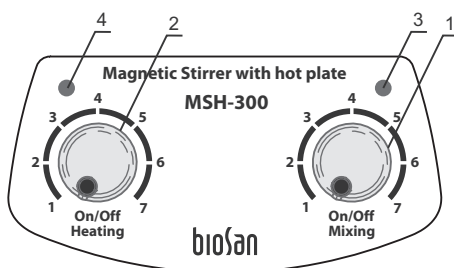

Fig. 2 Control panel
4.3. Using the **Mixing** knob (Fig. 2/1) switch the mixing mode **On** and set the required speed. Mixing indicator brightness (Fig. 2/3) increases at higher speed settings.
4.4. Using the **Heating** knob (Fig. 2/2) switch the heating **On** (the heating indicator (Fig. 2/4) will light up) and set the required temperature. The heating indicator will be constantly on until the set temperature is reached and will start blinking when the set temperature is achieved.